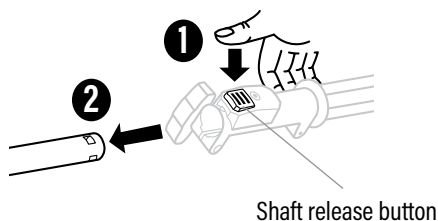

Fig. 4B
3. Press the shaft release button (Fig. 4B, 1), then pull the attachment shaft or extension tube out from the powerhead shaft and remove it. (Fig. 4B, 2)